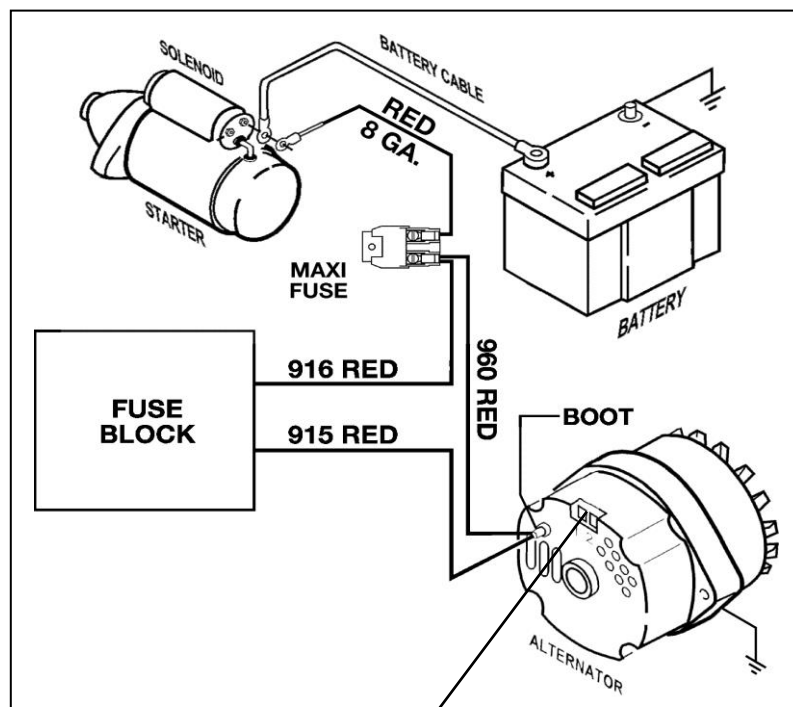

Figure 8.5 High Output Wire
8.5 GM One-Wire Alternator. See Figure 8.5
- 8.5.1** Connect ENGINE SECTION wire #915 (red) to the Alternator Output lug (Bat). Insulate and stow ENGINE SECTION wire #914 (brn) Do not install jumper wire. No wires are connected to Alternator terminals 1 & 2. If alternator output is greater than 65 amps refer to Figure 8-5 and the caution on pg 8.
CAUTION: IF USING AN ALTERNATOR WITH AN OUTPUT LARGER THAN 65 AMPS, YOU WILL ALSO NEED TO USE THE RED 10 GAUGE WIRE #960 AND THE RED 8 GAUGE WIRE INCLUDED IN THE BOX. THE WIRE END WITH THE RING TERMINAL AND RUBBER BOOT WILL CONNECT TO THE ALTERNATOR OUTPUT LUG WITH #915. ROUTE THE OTHER END TO THE MAXI FUSE TERMINAL WITH WIRE #916. CUT THE WIRE AND CRIMP ON A RING TERMINAL. NOW INSTALL A RING TERMINAL ON THE REMAINING RED 8 GAUGE WIRE AND ATTACH IT TO THE STARTER SIDE TERMINAL OF THE MAXI FUSE. CUT THE 8 GAUGE RED WIRE TO LENGTH, CRIMP ON A RING TERMINAL AND ATTACH IT TO THE MAIN SOLENOID LUG WITH THE POSITIVE BATTERY CABLE. SEE FIGURE 8.5.